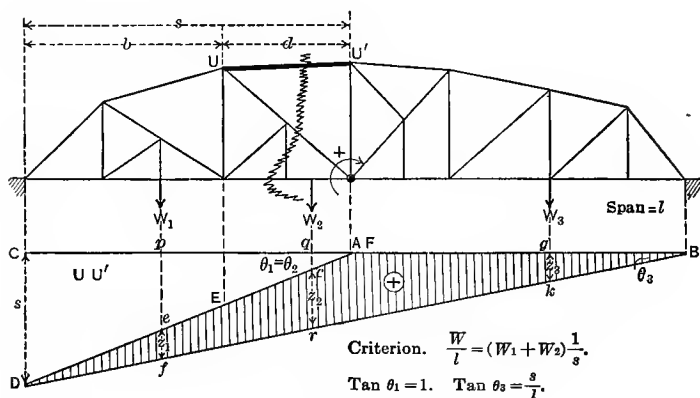

FIG. 15.
**Top Chord of Sub-strut Truss.**—In Fig. 15 the top chord  $UU'$  has no double duty to perform as it is simply a chord member of the main truss. The influence diagram is drawn according to the general rule using the horizontal projection of the chord  $UU'$  as the length of the *cut stringer*.